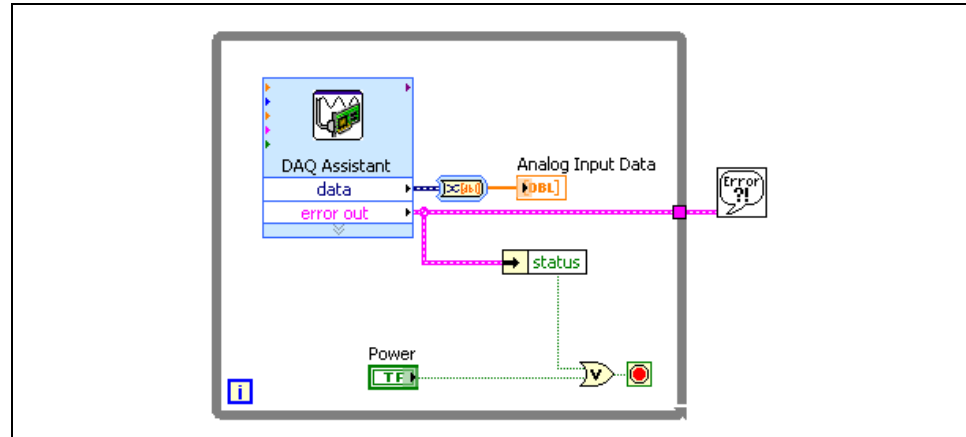

Figure 8-8. Triggered Analog Input Block Diagram
In the following steps, you build the block diagram shown in Figure 8-8.
11. Wire the block diagram as shown in Figure 8-8.